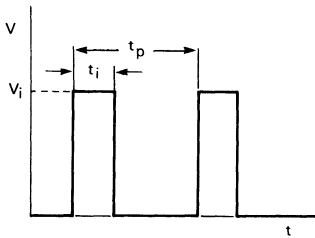

Fig. 10 Rectangular pulses.
- \hat{V}_i = applied peak pulse voltage (Figs 10 and 11)